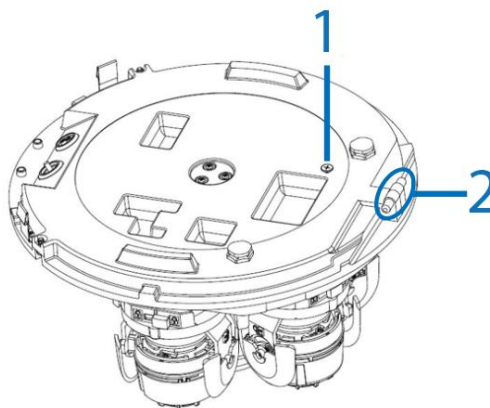
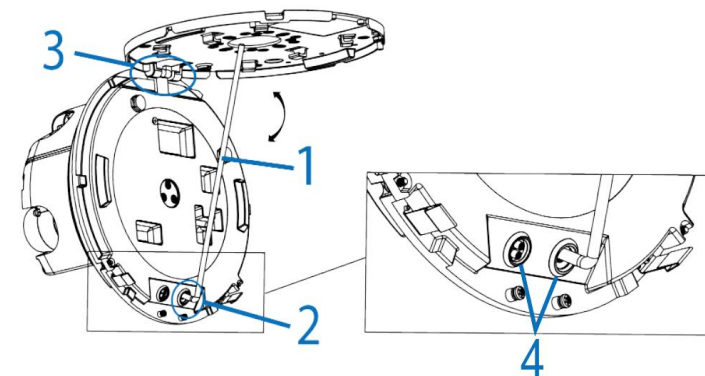
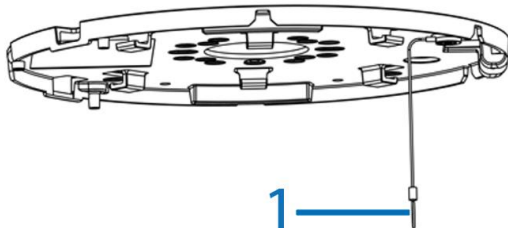
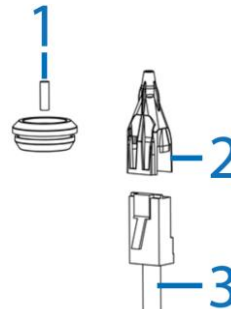

Figure 6
Figure 8
Figure 5
Figure 7
8. Insert the 'hinge pins' (2) (Figure 6) on the camera module lens into the 'hinge knuckle' on the mounting plate. '1' in Figure 8 identifies how the camera lens module and mounting plate attach together.
10. Insert the RJ-45 cable (3) (Figure 7) into the insert tool (2) (Figure 7) remove the rubber grommet (2) (Figure 8) from the camera lens module.
11. Pierce the rubber grommet (1) (Figure 7) by passing the insert tool and cable through the center of the rubber grommet.
7. Hold the camera lens module up to the mounting plate and insert the 'loop' on the safety lanyard (1) (Figure 5) that is attached to the mounting plate to the screw (1) (Figure 6) on the camera lens module.
12. Pass the insert tool and cable (2) (Figure 8) through the rubber grommet hole (3) (Figure 8) on the camera lens module.
WARNING: Ensure that both rubber grommets (4) (Figure 8) are securely inserted into the camera lens module before operation.
- Ensure that **both** rubber grommets (4) (Figure 8) are securely inserted into the camera lens module before operation.